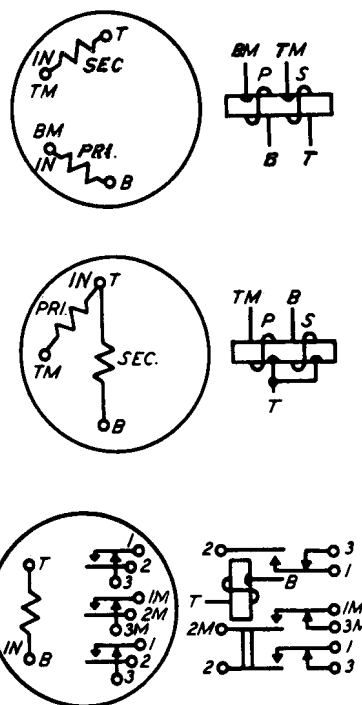

Fig. 32 – Winding and Spring Terminal Arrangement as Viewed From the Rear (terminal side) — 121-, 122-, 125-, 149-, 162-, 178-, and 179-Type Relays
2.43 The contact terminals are numbered diagonally downward from right to left facing the rear of the relay. On the 125- and 179-type relays, the middle contact terminals have a suffix M. The relative location of the winding terminals as viewed from the terminal side and typical designations are shown in Fig. 32.